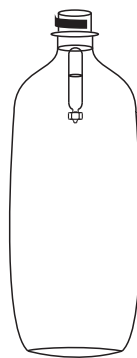

Figure 2.
6. Place the diver assembly in a plastic 1- or 2-L bottle completely filled with water and screw on the cap securely (Figure 2). Observe how the diver assembly dives to the bottom as you squeeze the bottle and how it rises to the surface as you release the squeeze.
5. Place the diver assembly in the plastic 1- or 2-L bottle completely filled with water and screw on the cap securely (Figure 2). Observe how the diver assembly dives to the bottom as you squeeze the bottle and how it rises to the surface as you release the squeeze.